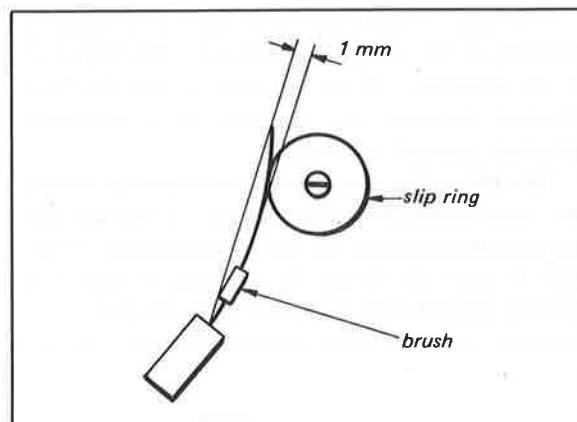

Fig. 4-7a. Brush pressure adjustment
14. Tighten the brush pressure adjusting screws to obtain a 1 mm bend (approximately) as shown in Fig. 4-7a. Inspect the brush and slip-ring assembly to make sure that the brushes are centered in the slip-rings.